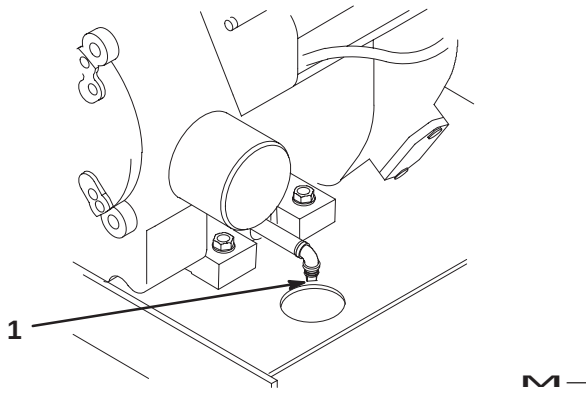

Figure 37
3. Place a pan below the oil drain. Remove the oil drain plug (Fig. 37).
5. Pour approximately 80% of the specified amount of oil, on page 32, into the filler tube (Fig. 37). Now check the oil level; refer to Checking Oil Level, page 32. Slowly add additional oil to bring to full mark on dipstick.